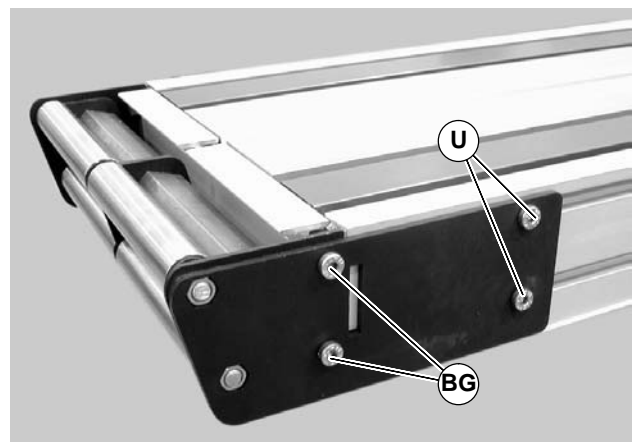
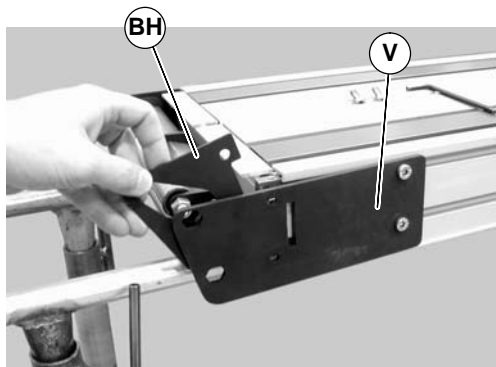
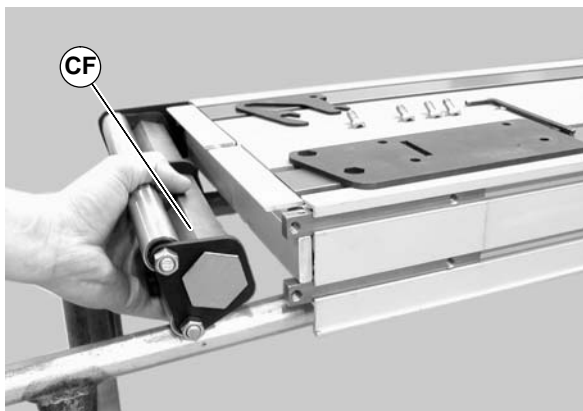

Figure 65
Figure 66
Figure 67
2. On one side of conveyor, loosen the two (2) back fastening screws (U of Figure 65), and remove the two (2) front fastening screws (BG).
3. Pull back the outer headplate (V of Figure 66) and remove the inner spacer (BH).
4. Slide the transfer tail pulley assembly (CF of Figure 67) out of the headplate on the opposite side.
**NOTE:** Transfer tail assembly must be removed as on piece. Removal may require removing screws U of Figure 65 and headplate V of Figure 66 as shown in Figure 67